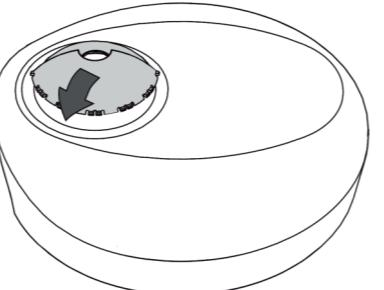

FIG. 20
4.4.2 Fixing lens shield: There is circular hook on the back of the decorative frame and the lens shield is designed with a circular groove. The lens shield can be fitted by joining the groove of lens shield with its corresponding hook on the decorative frame (See FIG.20).